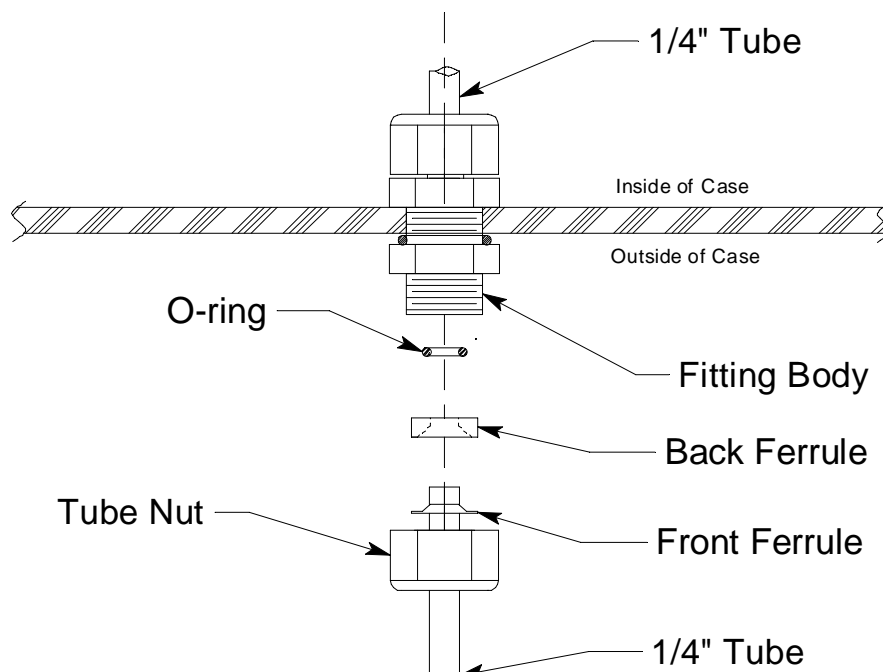

Figure 7: Inlet Fitting with Tubing Stub
4. Push the new tubing up through the inlet fitting tube nut and replace the ferrule set and the O-ring, if it came out, in the orientation shown in Figure 7.